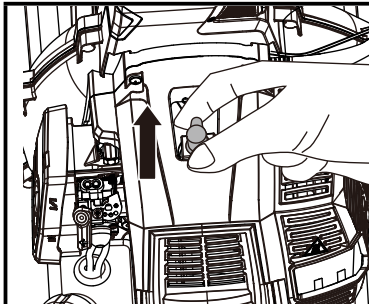

Fig. 31
- Remove the spark plug cap. Fully cover the spark plug using the provided socket wrench. Rotate the spanner counter clockwise to remove the spark plug (Fig. 31 & 32).